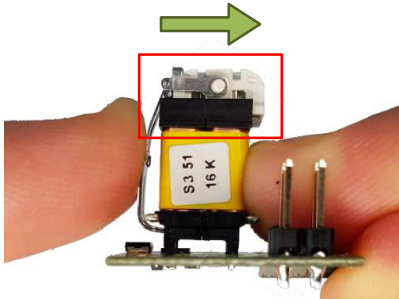

Figure 1. Pressing the Harvesting Switch
**NOTE:** When the switch is used without an additional enclosure, it is important to ensure that the white plastic piece on top of the generator can move freely in the direction of the actuation (See Figure 1). If blocked, it can affect performance by reducing the amount of energy harvested.
The Switch device can be used straight out of the box by clicking the harvesting switch (Figure 1). This section describes additional methods to reduce the system form-factor.